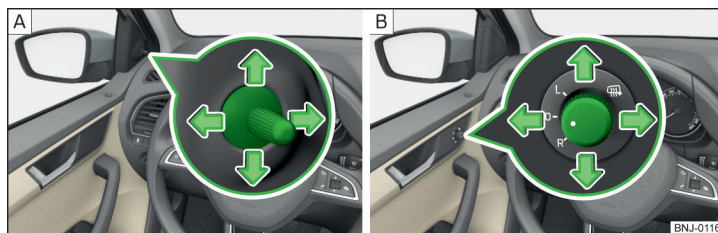

Fig. 67 Exterior mirror operation: mechanical / electrical
- » To **adjust** the mirror surface, move the knob in the direction of arrows » Fig. 67.
The knob for the electrically adjustable mirrors can be moved to the following positions » Fig. 67 - [B].